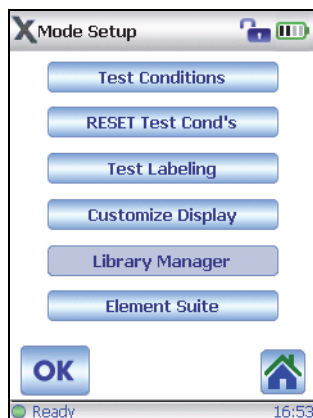

Figure 4-22 The Mode Setup screen
2. In the **Mode Setup** screen, tap **Test Conditions** (see Figure 4-22 on page 80).